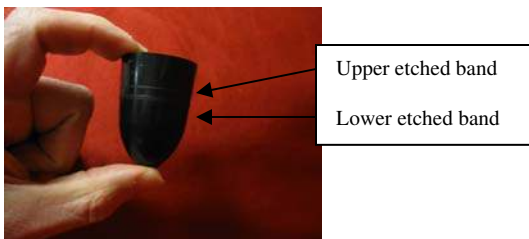

Fig. 1
3. Holding the air flow indicator as shown in Fig. 1, locate the two (lower and upper) etched circular bands.